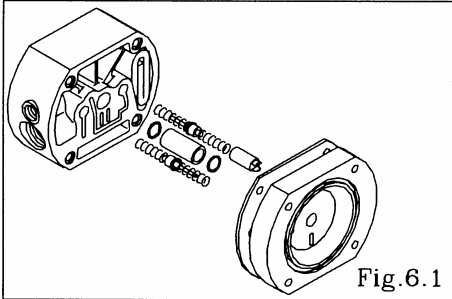

Fig.6.1
- Remove the main body. [Fig.6.1]
- Draw out the pilot valve assembly. [Fig.6.1]
- Remove the Packing and bushing. [Fig.6.1]